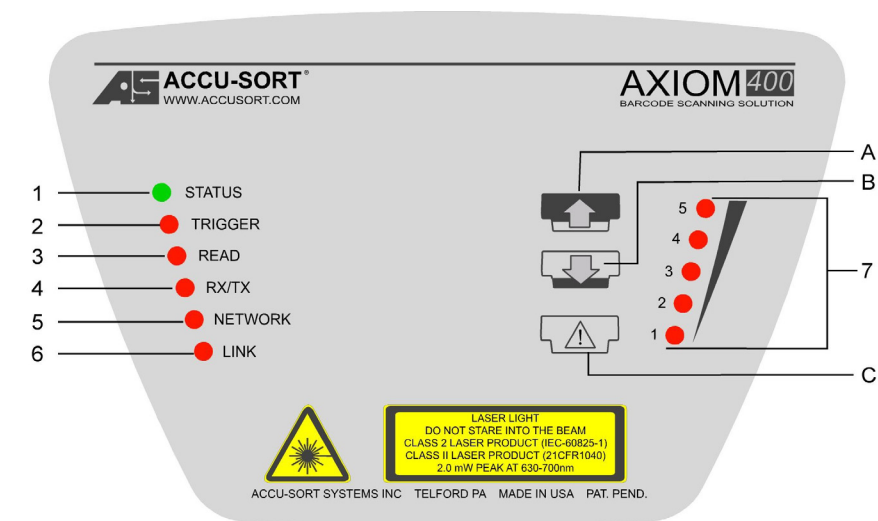

Figure 5-1: Axiom Control Panel (on scan head)
3. Press the Test/Diagnostics button on the control panel to initiate test. (See *Figure 5-1, button C.*)